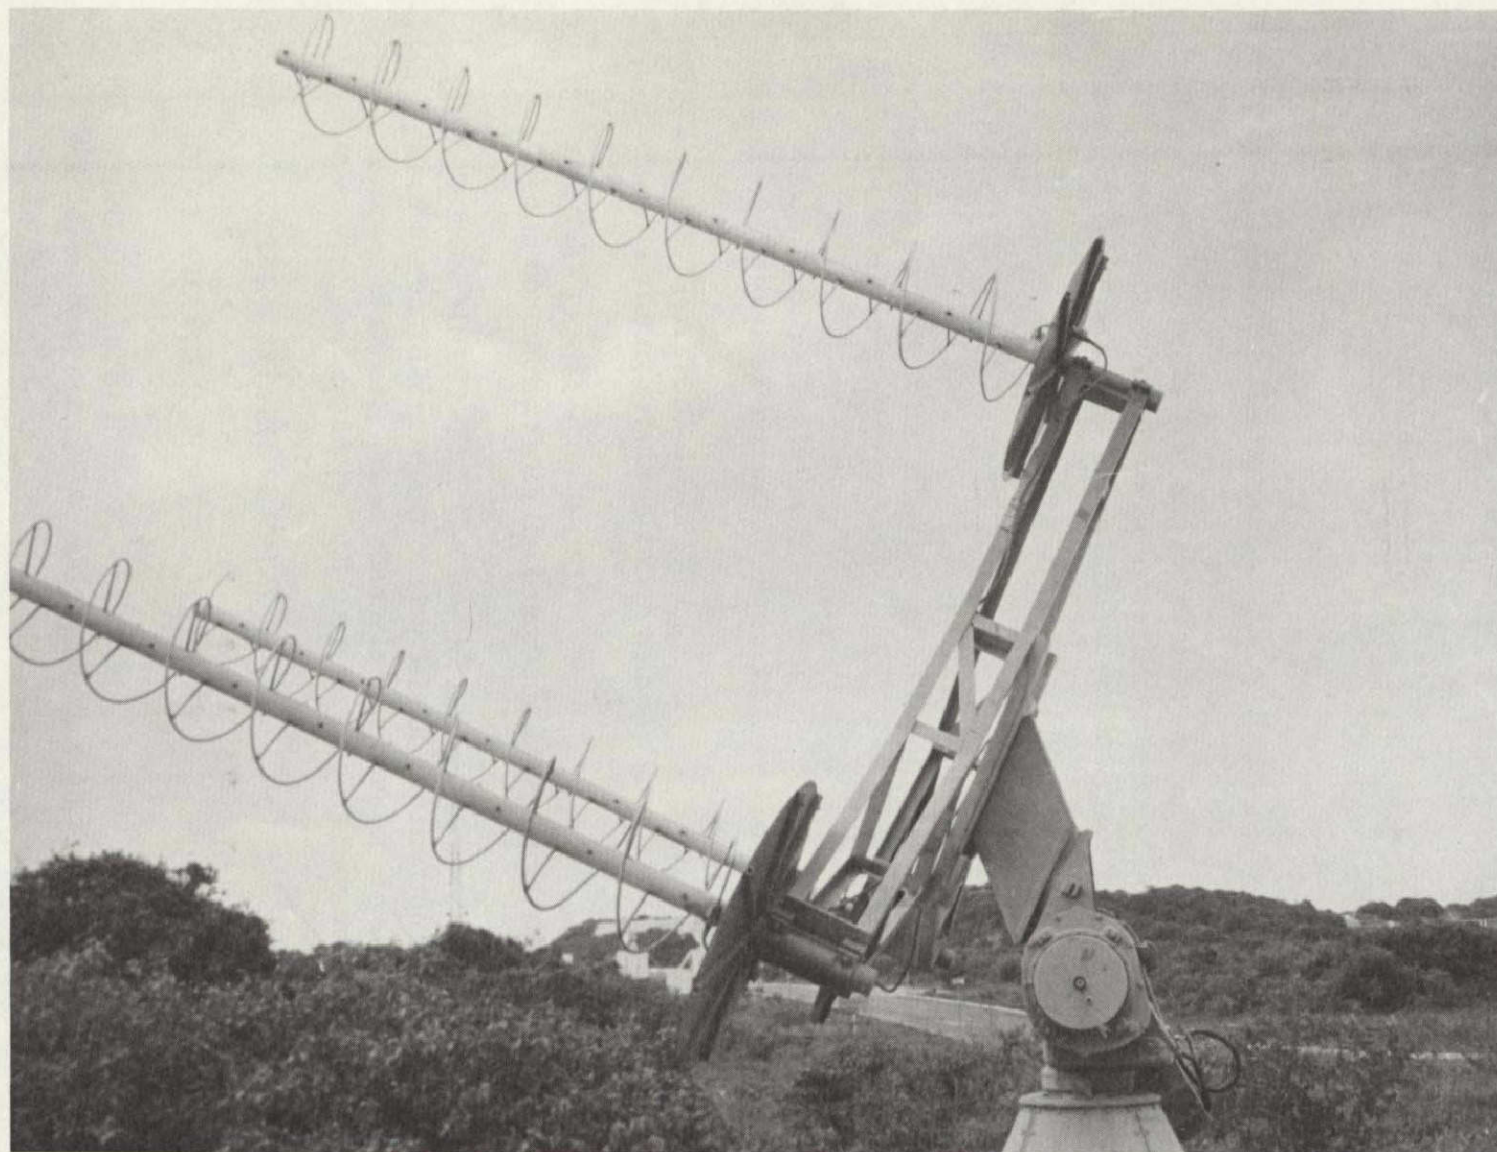
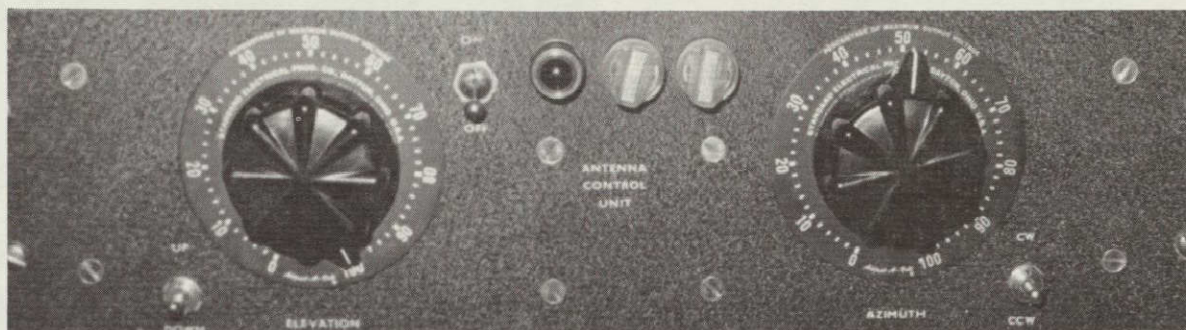
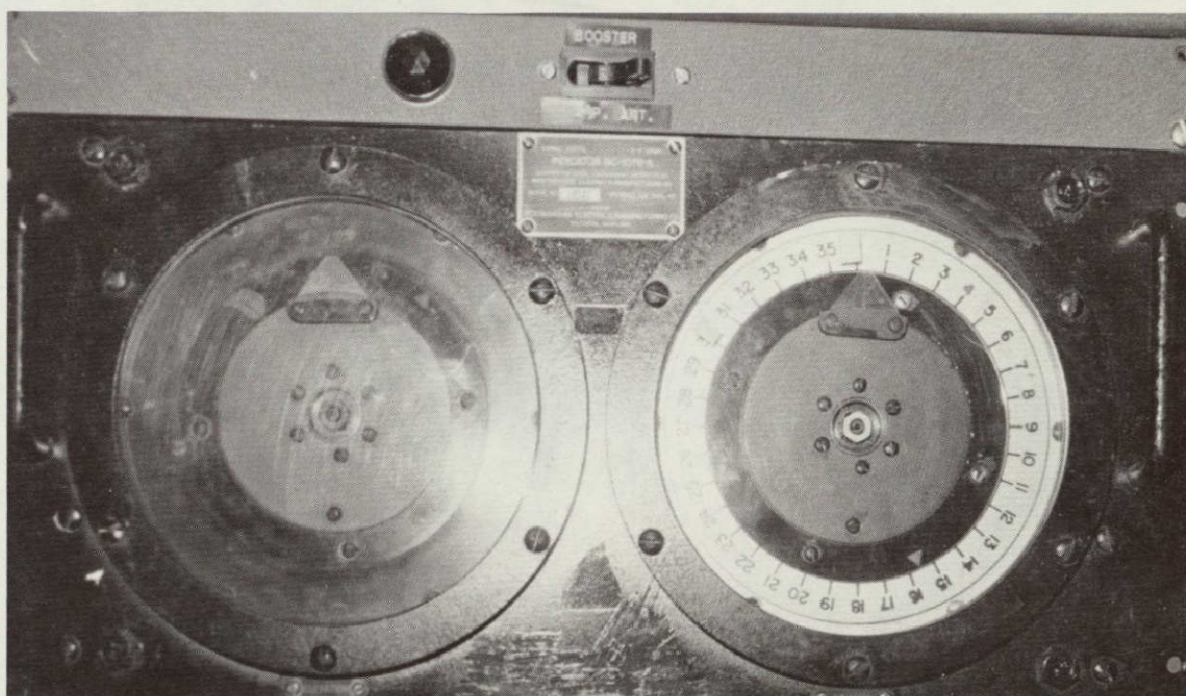

Figure A-12. New, 10-Turn, Right-Circular Tri-Helix Antenna
Figure A-13. Tri-Helix Antenna Control Unit
Figure A-14. Tri-Helix Antenna Direction Indicator and Preamplifier Power Switch
TRI-HELIX ANTENNA, CONTROLS, AND PREAMPLIFIER. The tri-helix antenna (Frontispiece and Figure A-12) consists of three ten-turn helical antennas, each with individual ground plane, combining network, and mounting spider. The helical elements are attached to a rigid aluminum framework, which, in turn, is mounted on a radar type pedestal. The pedestal which is mounted on a wooden base at the rear of the trailer incorporates a remote control system, controlling movement in each of the two axes of rotation (the azimuth and elevation axes). The remote controls, consisting of a control panel (Figure A-13) and an indicator panel (Figure A-14) are mounted in the trailer, in equipment racks three and four, respectively. A preamplifier, Model HFW-2(AS)
The power On-Off switch for the preamplifier is mounted on a small front panel, in equipment rack number four, directly above the antenna direction indicator (Figure A-14).